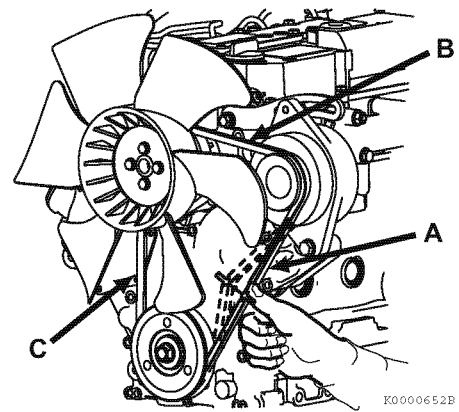

Figure 5-2
There are three positions to check for V-belt tension (**Figure 5-2, (A), (B) and (C)**). You can check the tension at whichever position is the most accessible. The proper deflection of a used V-belt at each position is: